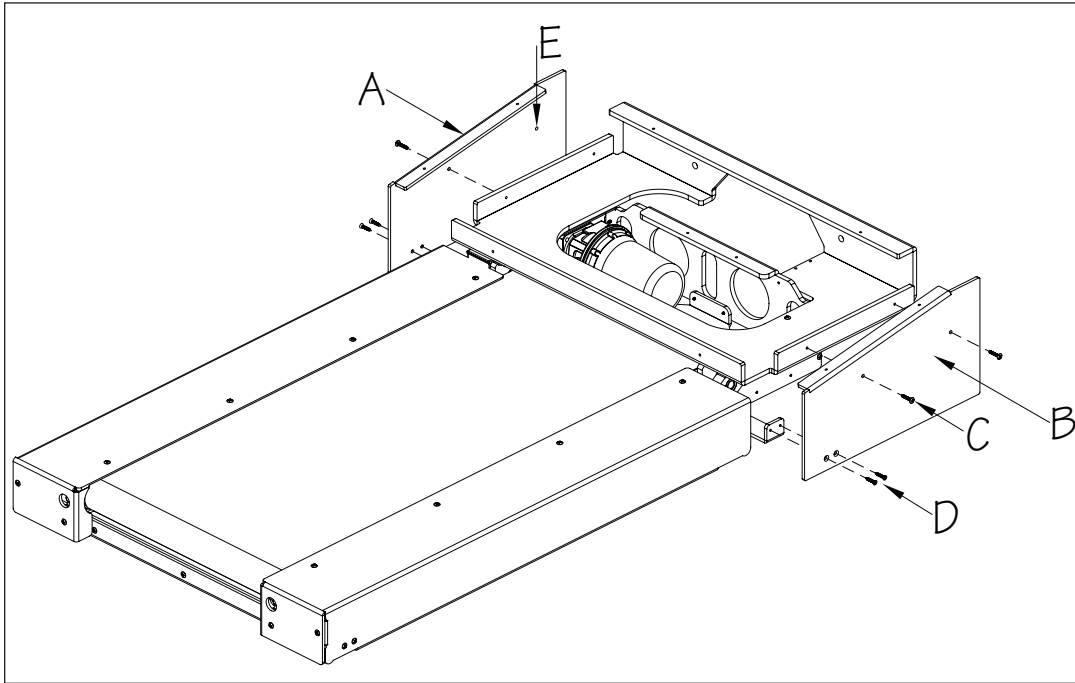

Fig. 7
5. Prior to attaching the two End Covers, the covers MUST be modified to account for the radius at the bottom of the pool wall, where the wall meets the floor, (if a radius is present). Attach the End Covers (A) and (B) using the 1" Phillips Truss Head Screws (C) and 1" Phillips Flat Head Screws (D). DO NOT install a screw in location (E) at this time. This screw will be installed in the following step (Fig. 7).